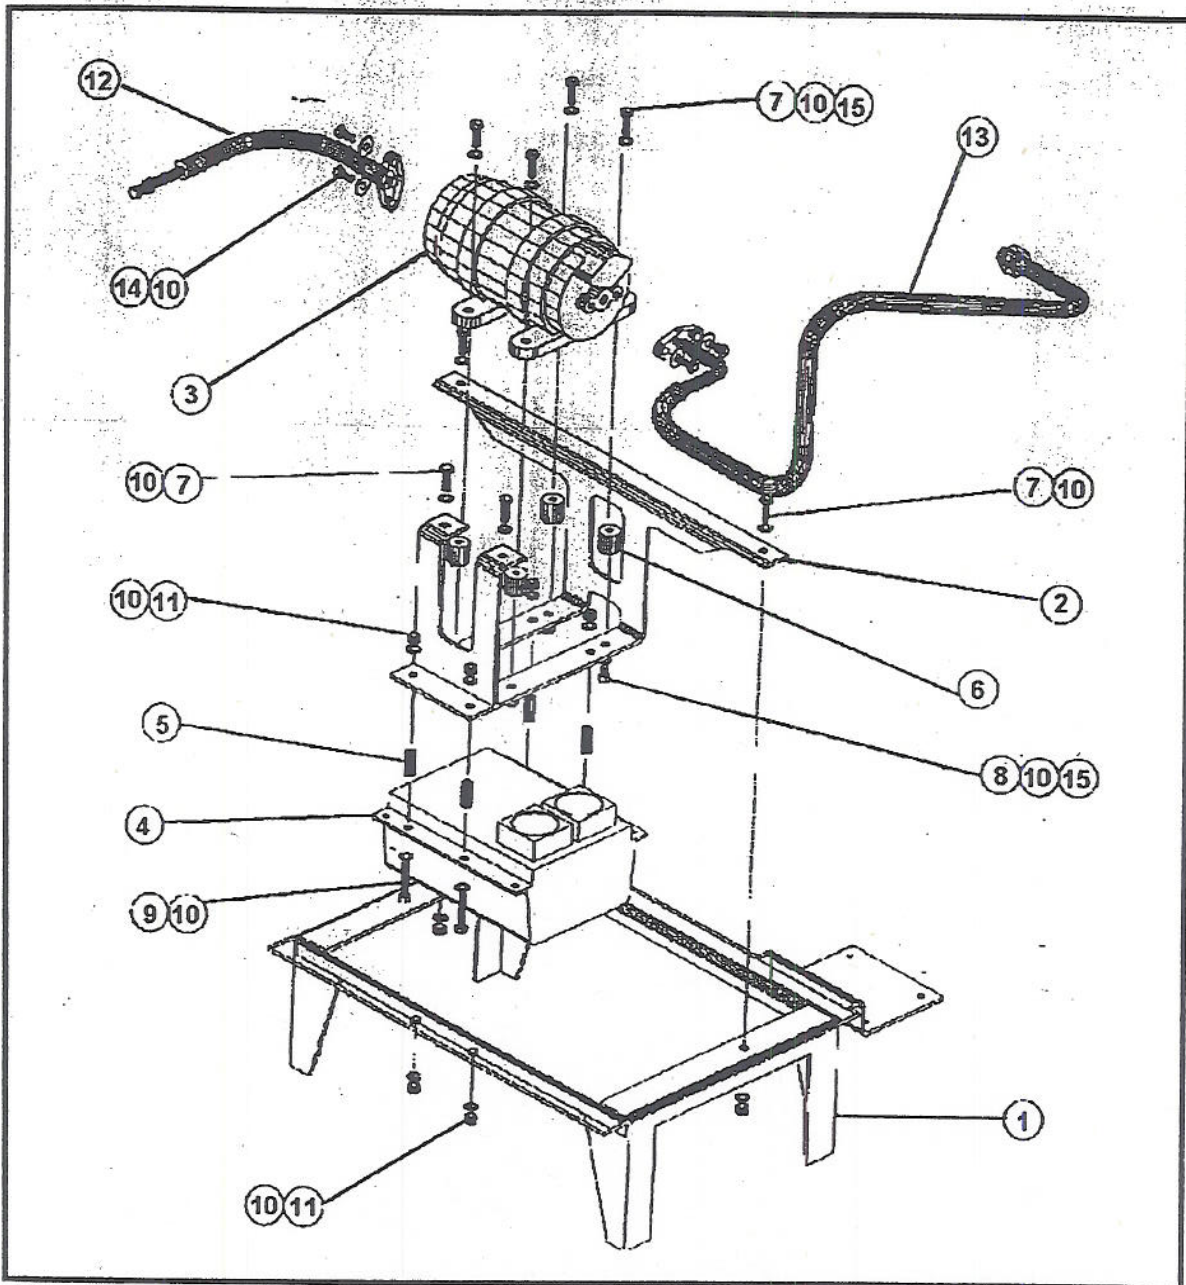

Figure 6-2 - Air Conditioning Mounting
3. Install the compressor and controller (See figure 6-2).
- B. Align the compressor mounting bracket [2] with the PCU mount [1] as shown in figure 6-2. Clamp in place and line drill the mounting holes with a 3/8" drill bit.